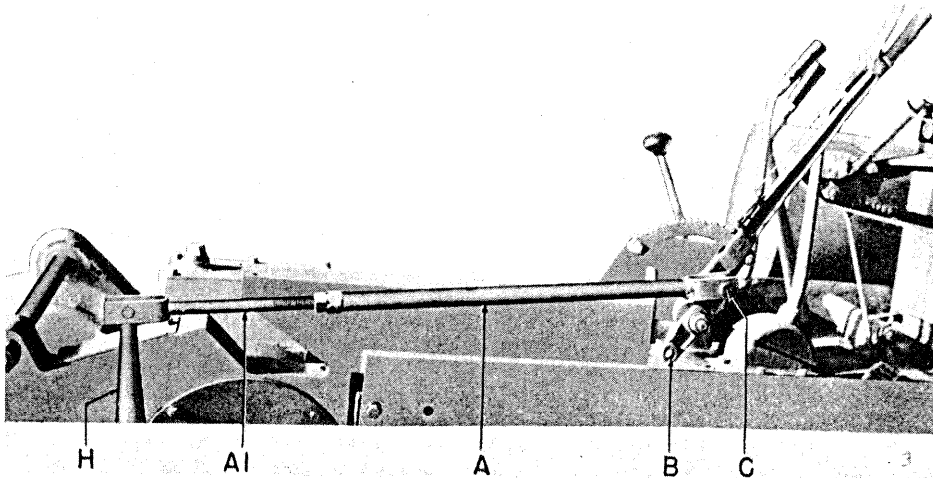

Figure 3 (Overwinding)
2. The brake link "A" should be connected to the **UPPER HOLE** in the handlever as at "C," Fig. 3, page 9, when the **DRUM IS OVERWINDING**.